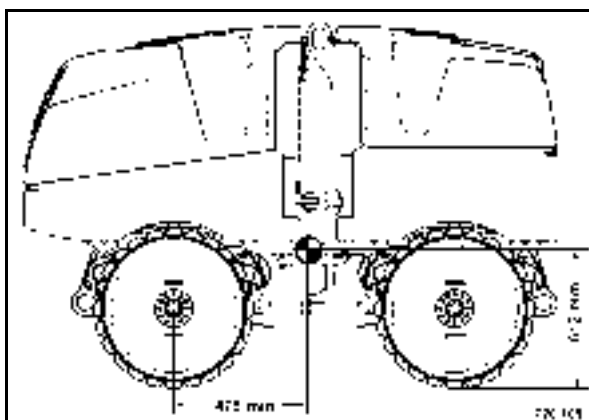

Fig. 90
- Position of centre of gravity (Fig. 90).